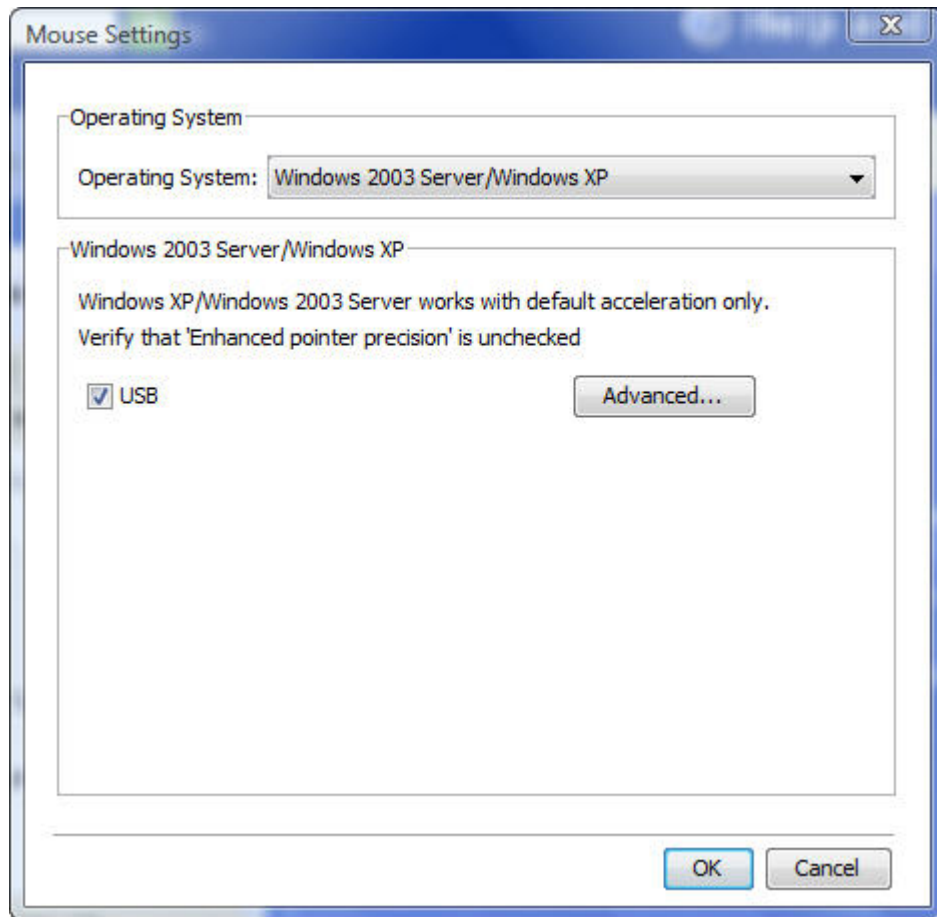

Figure 44 – Relative Mouse Settings
1. In the **Mouse Settings box** (see Figure 44), click **Advanced**.